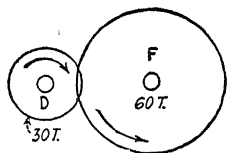
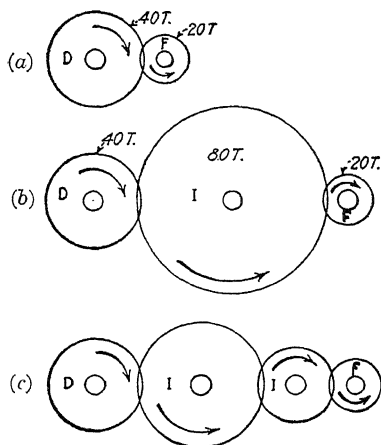

Fig. 19.—Driver and follower gears.
FIG. 20.—Simple gear trains. (a) No intermediate; (b) one intermediate; (c) two intermediates.
**28. Driving and Driven (Follower) Gears.**—The same reasoning is true with gears with different numbers of teeth as with pulleys of different diameters. If a driving gear having 30 teeth (Fig. 19) is in mesh with a gear having 60 teeth, when the driving gear has made one full revolution it has engaged only 30 of the 60 teeth of the follower gear and turned it only half around. If a driving gear *D* has 40 teeth (*a*, Fig. 20), and the follower gear *F* has 20 teeth one revolution of the driving gear will revolve the follower gear two revolutions. That is, the velocities of the driving and follower gears are to each other *inversely* as the numbers of their teeth.2
Placing an intermediate gear (of any number of teeth) between two gears changes the direction of rotation of the follower gear but does not change the velocity ratio. This is illustrated in *b*, Fig. 20. One revolution of *D* will engage 40 teeth in *I* (no matter how many teeth *I* has), and *I* will engage 40 teeth in *F* turning it around twice, the same as in *a* without the intermediate. Note, however, that in *b* the direction of rotation of the follower gear *F* is changed.
*intermediates*; thus with one intermediate the follower gear will revolve in the same direction as the driving gear (b, Fig. 20) and with two intermediates the direction will be reversed (c, Fig. 20).